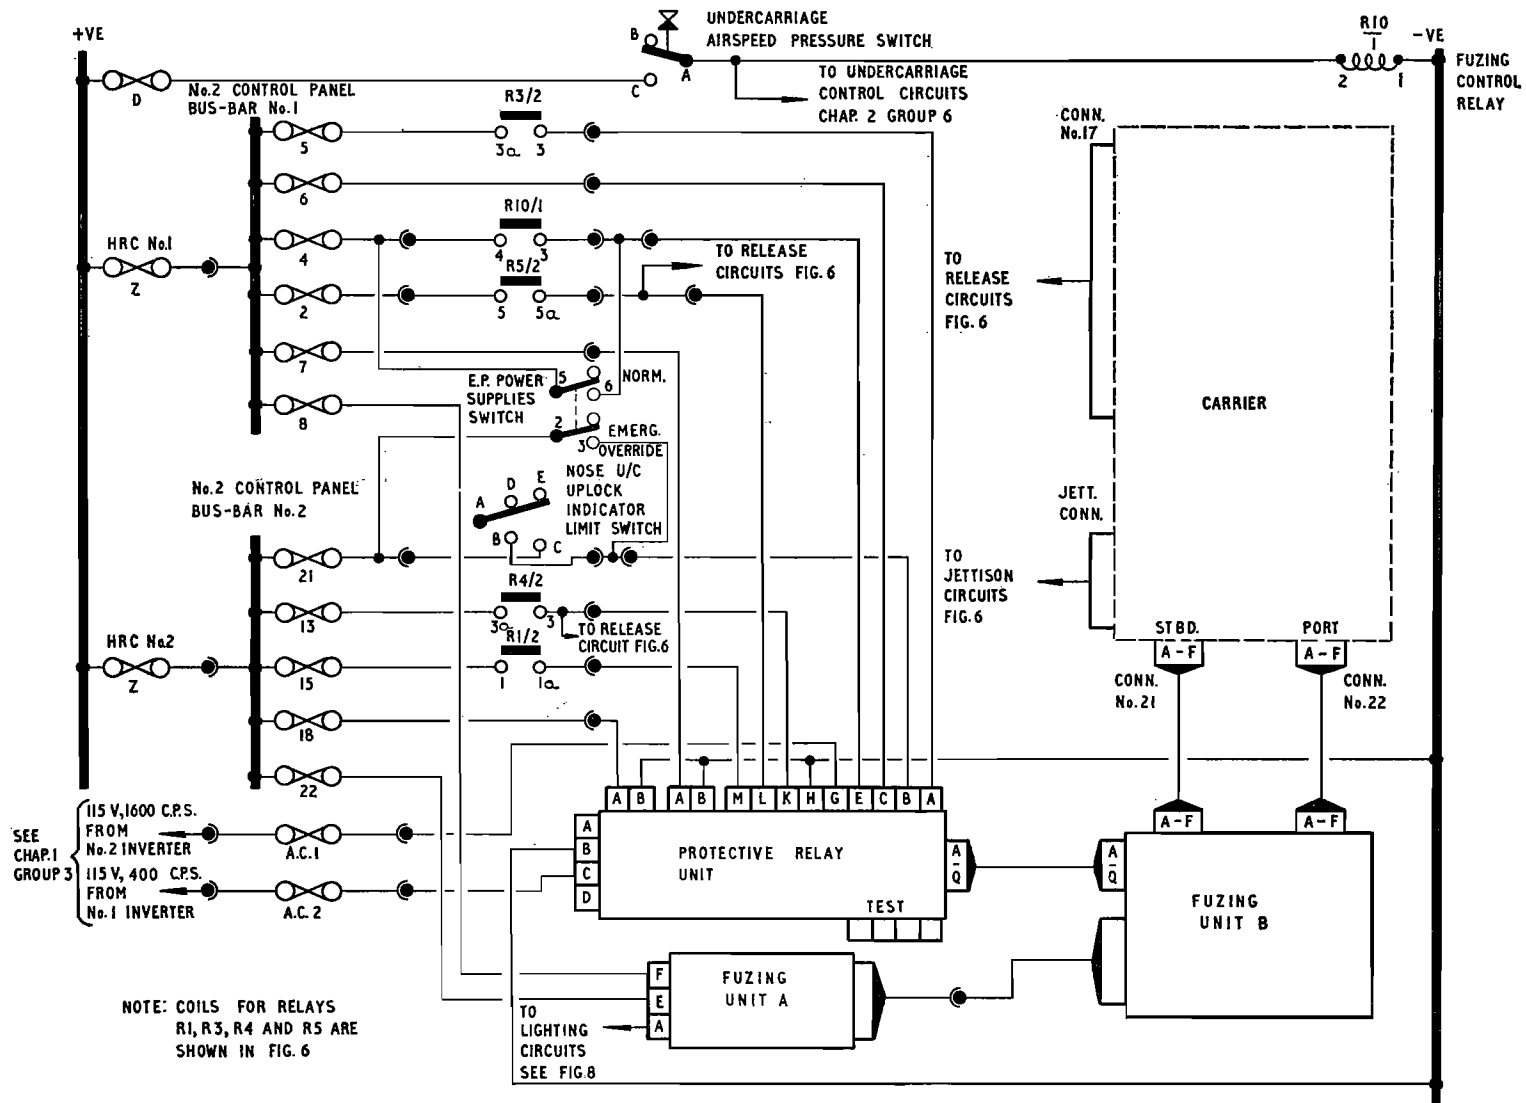

Fig. 7. No. 2 control panel role, bomb control and fuzing (Mods. 2612, 2645, 2646 or 2725 and 2610)
Control and fuzing (fig. 7)
A.C. supply (fig. 7)